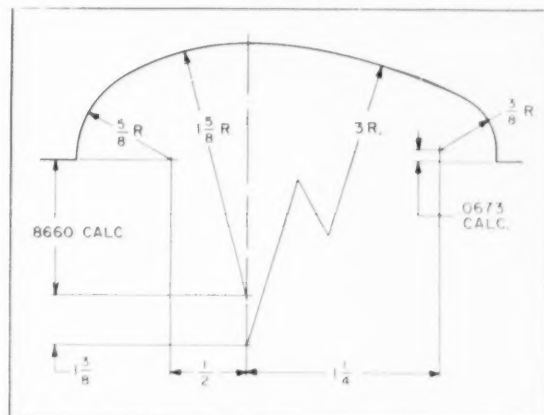

Fig. 9. Curved lines may be dimensioned by specifying properly located radii.
**Curves**—A curved line may be dimensioned either by radii properly located, seen in Fig. 9, or by ordinates and abscissas. If the form is important functionally, the coordinates should be